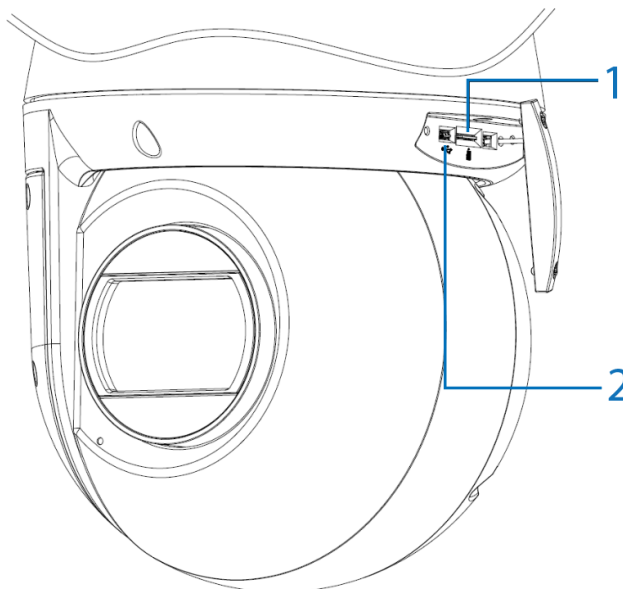
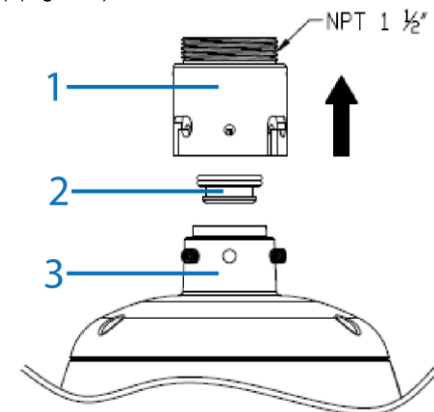

Figure 5
Figure 6
2. Carefully pull open the cover to access the SD card slot (1) (Figure 5) and insert (or remove) the micro SD card into (or from) the camera.
Note: The USB cable connection slot (2) (Figure 5) for Wi-Fi configuration is also located under the micro SD card cover. The Wi-Fi option allows wireless configuration of the camera at the point of install in conjunction with the Illustra Tools app (Illustra Wi-Fi dongle required).
1. Securely place the rubber cable seal (2) (Figure 5) into the pendant cap (3) (Figure 6).
2. Place the mount adaptor (1) (Figure 6) on to the NPT pendant cap (3) (Figure 6) and align the holes on the mount adaptor with the holes on the NPT pendant cap.